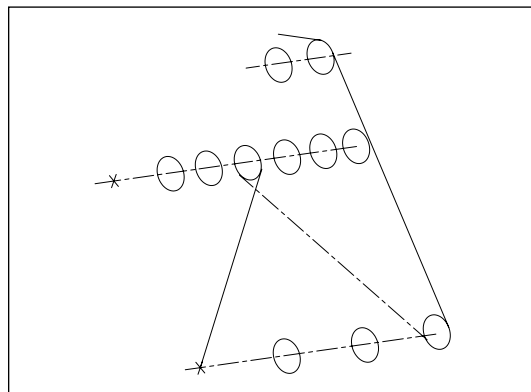

Figure9-30g: Three-magnification crossing and winding schematic
7. When lift weight with a three magnification, cross and wind steel wire rope according to the method as shown in Figure9-30g.